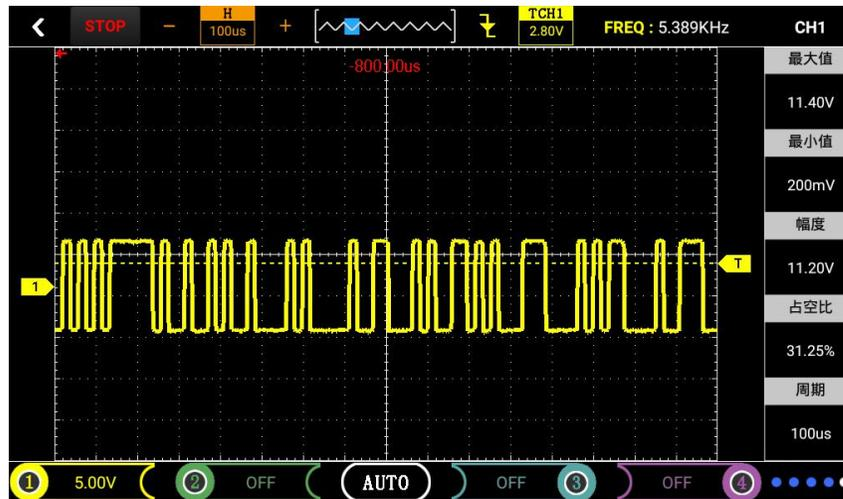

Figure 23
- ① with CAN-high, CAN-low step 1.
- ② Enter the main menu interface and select “Bus Test”. Then enter the sub-menu and click LIN-bus to enter the oscilloscope operation interface.
- ③ Connect the probe to the oscilloscope CH1 and set the probe in 1X position, and then ground it to signal ground or ground.
- ④ Because the oscilloscope "LIN-bus" function has been set by default (CH1 probe file 1X, time base file 500us), simply touch the probe to the corresponding signal to visually display the waveform, as shown in Figure 23.
- ⑤ Click “CH1” to view the values and configurations (configuration is already default).
- ⑥ The displayed waveform can be self-determined by adjusting the time base, vertical volts/div, and trigger mode (time base, vertical volts/div, and other specific operation methods refer to general oscilloscope operations).